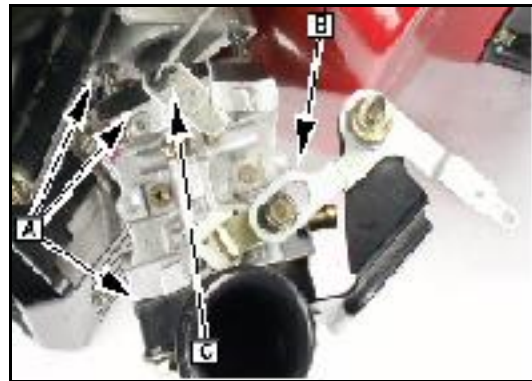

Fig. 17
1. Install the carburetor assembly as shown in (Fig. 17).
Refer to (Fig. 17)